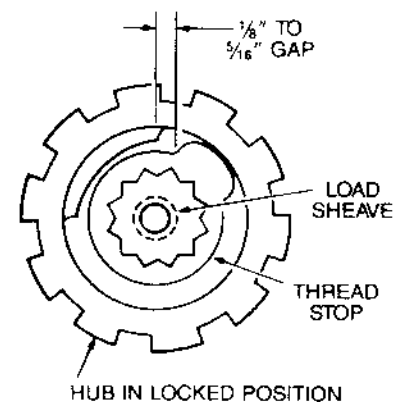
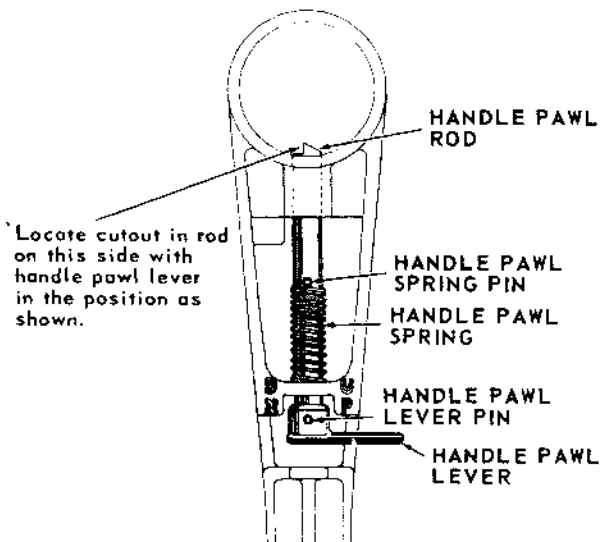

FIGURE 4-6. POSITIONING OF THREAD STOP
FIGURE 4-7. LEVER AND ROD ASSEMBLY
f. Manually screw hub (18) counter-clockwise onto load sheave (32) until the hub face has locked against the brake disc (19). Continue turning hub counter-clockwise until the cast stop within the hub is at the top as shown in figure 4-6. Place thread stop (11) over the square end of the load sheave and to the right of the cast hub stop, allowing a minimum 1/8 inch movement to a maximum 5/16 inch movement between the hub stop and the protrusion on the thread stop.
g. Place gasket (14) on housing (43). If oil seal (15) was removed, press seal in cover (16). Place cover on housing while taking care not to damage oil
h. Insert handle pawl rod (9) into handle (10). Place spring (8) on rod and press pin (5) in rod. Attach lever (7) to rod with pin (6). See figure 4-7 for correct orientation of rod and lever. Replace plug (4) in handle.
i. Install ring (3) on retainer cap (2) and secure handle (10) to hub (18) with retainer cap and screw (1).
j. Assemble top hook (51), hook washer (53) and nut (52) in housing (43). Screw nut on hook until approximately 1/64 inch vertical play (to allow hook to swivel freely) remains. Align pin hole in hook and slot in nut and insert pin (37). If latch (50) was removed, attach latch to top hook.
k. Position swivel frames (48) over bottom hook (49). If latch (50) was removed, attach latch to bottom hook.
g. Manually screw hub (18) counter-clockwise onto pinion shaft (36) until the hub face has locked against the brake disc (19). Continue turning hub counter-clockwise until the cast stop within the hub is at the top as shown in figure 4-6. Place thread stop (11) over the square end of the pinion shaft and to the right of the cast hub stop, allowing a minimum of 1/8 inch movement to a maximum 5/16 inch movement between the hub stop and the protrusion on the thread stop.
h. Place gasket (14) on housing (50). If oil seal (15) was removed, press seal in cover (16). Place cover on housing while taking care not to damage oil seal. Attach cover with four screws (12) and lockwashers (13)
i. Insert handle pawl rod (9) into handle (10). Place spring (8) on rod and press pin (5) in rod. Attach lever (7) to rod with pin (6). See figure 4-7 for correct orientation of rod and lever. Replace plug (4) in handle.
j. Install ring (3) on retainer cap (2). Secure handle (10) to hub (18) with retainer cap and screw (1).
k. Assemble top hook (58), hook washer (61) and nut (60) in housing (50). Screw nut on hook until approximately 1/64 inch vertical play (to allow hook to swivel freely) remains. Align pin hole in hook and slot in nut and insert pin (59). If latch (57) was removed, attach latch to top hook.
l. Position swivel frames (55) over bottom hook (56). If latch (57) was removed, attach latch to bottom hook.